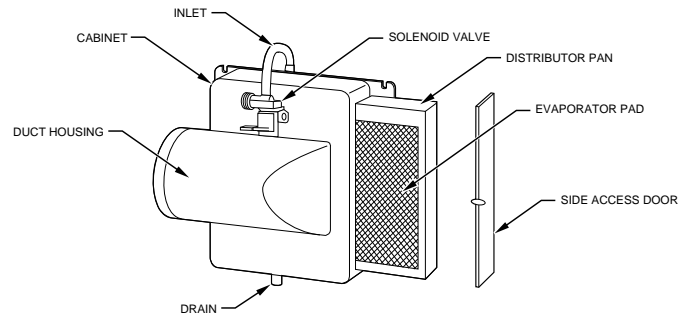

Fig. 8 — Model 49BG
- On a Model 49BG humidifier, gently pull the latch that secures the access door. Remove the door. Check to see if water is flowing from the solenoid valve into the evaporator pad. (See Fig. 8.)
- To disassemble a Model 49BG humidifier, gently pull the latch that secures the access panel. Remove the door and slide the evaporator pad assembly out of the unit. (See Fig. 8.)